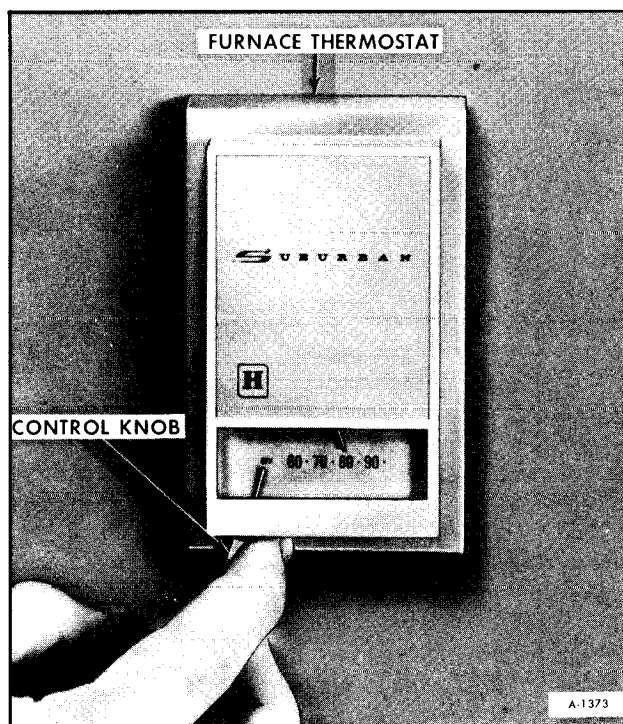

Figure 6—Turning Off Electricity To Furnace At Thermostat
1. Be sure L.P. gas is turned off at the tank. Turn the electricity off at the thermostat as shown in Figure 6.
5. Connect the main gas line and connect or turn on electricity (figure 6).